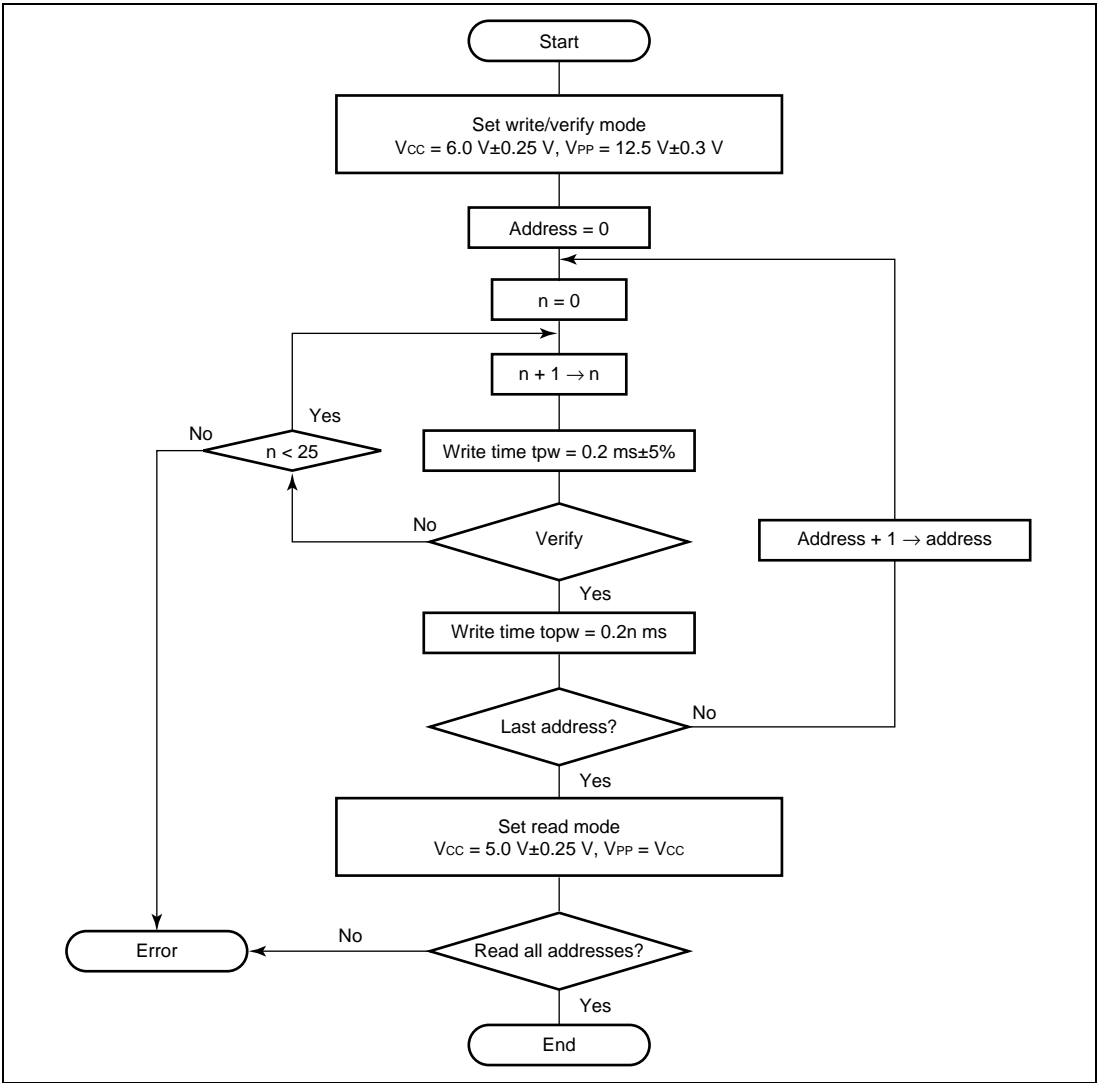

Figure 6.4 High-Speed, High-Reliability Programming Flowchart
The basic flow of this high-speed, high-reliability programming method is shown in figure 6.4.
3. t_{OPW} is defined by the value given in figure 6.4, High-Speed, High-Reliability Programming Flow Chart.
Note: * tOPW is defined by the value shown in figure 6.4, High-Speed, High-Reliability Programming Flowchart.